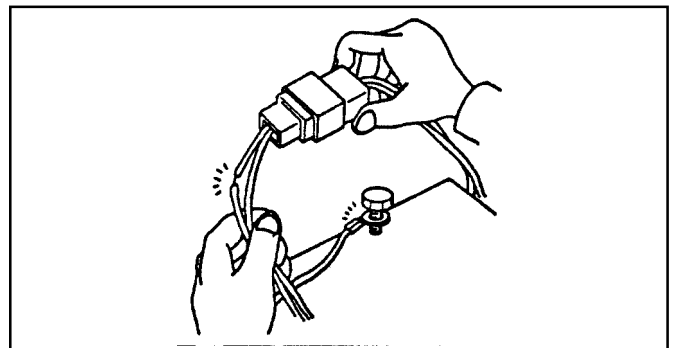

FIGURE 4.14C
1. Visually and manually inspect all engine electrical wiring, connectors and components for signs of damage and malfunction. See Figure 4.14C.